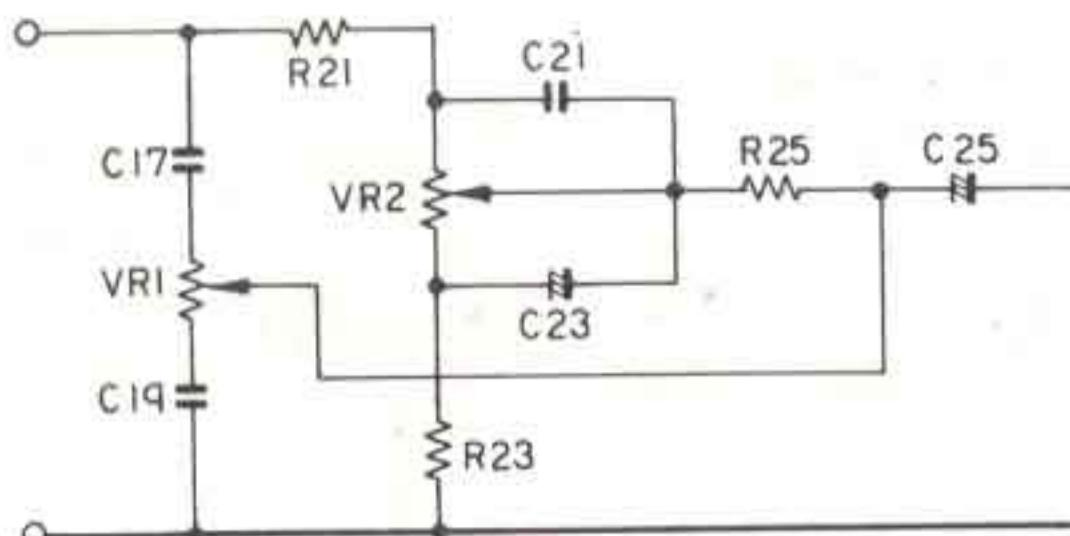

Fig. 5
• Tone Control Circuit (Fig. 5)